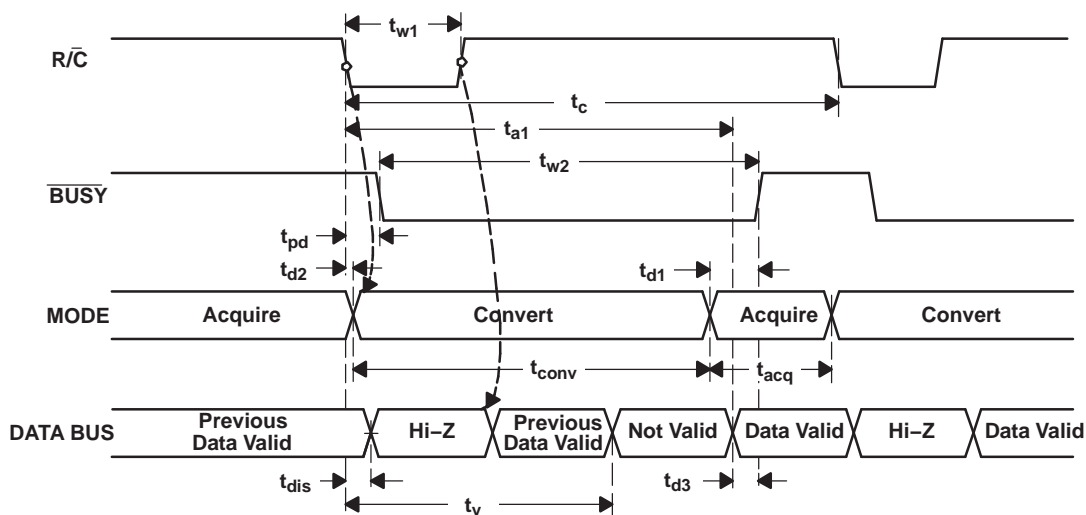
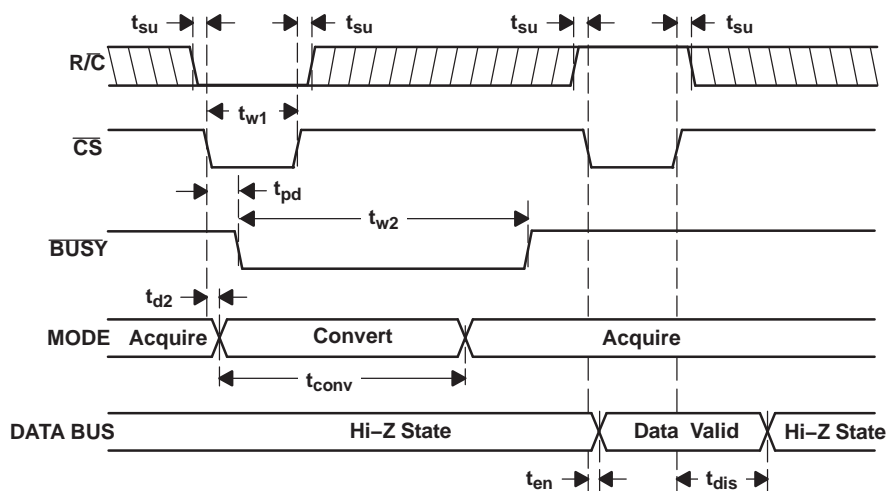
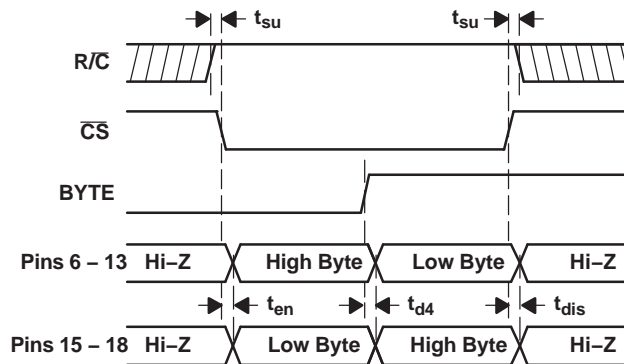

Figure 19. Conversion Timing with Outputs Enabled after Conversion ($\overline{\text{CS}}$ Tied Low)
Figure 20. Using $\overline{\text{CS}}$ to Control Conversion and Read Timing
Figure 21. Using $\overline{\text{CS}}$ and BYTE to Control Data Bus
The ADS8504 begins tracking the input signal at the end of the conversion. Allowing 4 μ s between convert commands assures accurate acquisition of a new signal. Refer to Table 1 for a summary of \overline{CS} , $\overline{R/\overline{C}}$, and \overline{BUSY} states and Figure 19, Figure 20, and Figure 21 for the timing diagrams.
(1) See Figure 19 and Figure 20 for constraints on data valid from conversion $n-1$.
After conversion n is completed and the output registers have been updated, $\overline{\text{BUSY}}$ (pin 26) goes high. Valid data from conversion n is available on D11-D0 (pins 6-13 and 15-18). $\overline{\text{BUSY}}$ going high can be used to latch the data. Refer to Table 3 and Figure 19, Figure 20, and Figure 21 for timing specifications.
After conversion n has been initiated, valid data from conversion $n-1$ can be read and is valid up to t_2 (2.2 μs typ) after the start of conversion n . Do not attempt to read data from t_2 (2.2 μs typ) after the start of conversion n until $\overline{\text{BUSY}}$ (pin 26) goes high; this may result in reading invalid data. Refer to Table 3 and Figure 19, Figure 20, and Figure 21 for timing specifications.
The number of control lines can be reduced by tying $\overline{\text{CS}}$ low while using the falling edge of $\text{R}/\overline{\text{C}}$ to initiate conversions and the rising edge of $\text{R}/\overline{\text{C}}$ to activate the output mode of the converter. See Figure 19.